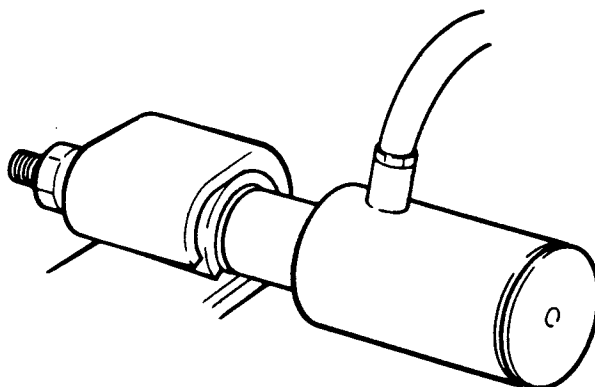

Fig I5.3
- (6) Refer to Fig I5.3 which shows the use of the special tool.
- (7) If necessary, remove the shackle bush from the chassis frame bracket with the aid of a tubular drift or suitable extractor. If the bush disintegrates, leaving the outer casing in the chassis frame bracket, it should be carefully sawn through with a hacksaw to facilitate removal. DO NOT saw the chassis bracket.